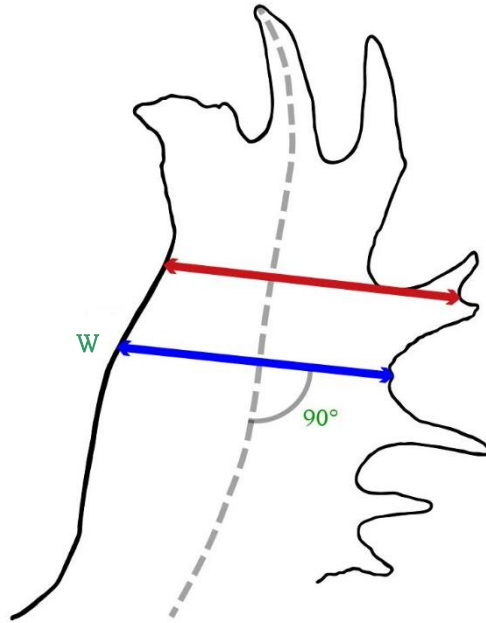

Figure 5
4. Width of Palm. Measure the width of each palm on the outside of the antler at the widest place between protuberances; the measurement must be taken at a 90-degree angle to the axis of the palm. In this case the greatest score is to be sought, so again several measurements must be taken. Be careful: Do not measure between two tines that have a common base. See red line (wrong) and blue line (correct) in Figure 5.